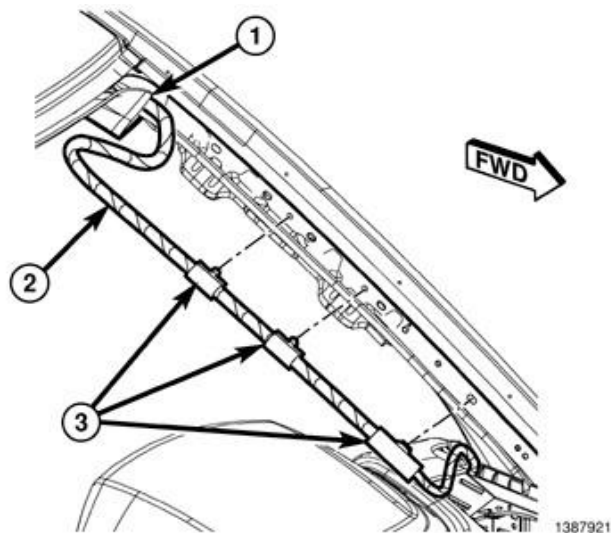

Figure 29 – Headliner Harness
21. As necessary, release the headliner wiring harness clips (3) from the A-pillar to allow enough wiring harness slack for lowering the headliner (Figure 29).
40. Reattach any headliner wiring harness clips (3) removed from the A-pillar to allow slack while lowering headliner (Figure 29).